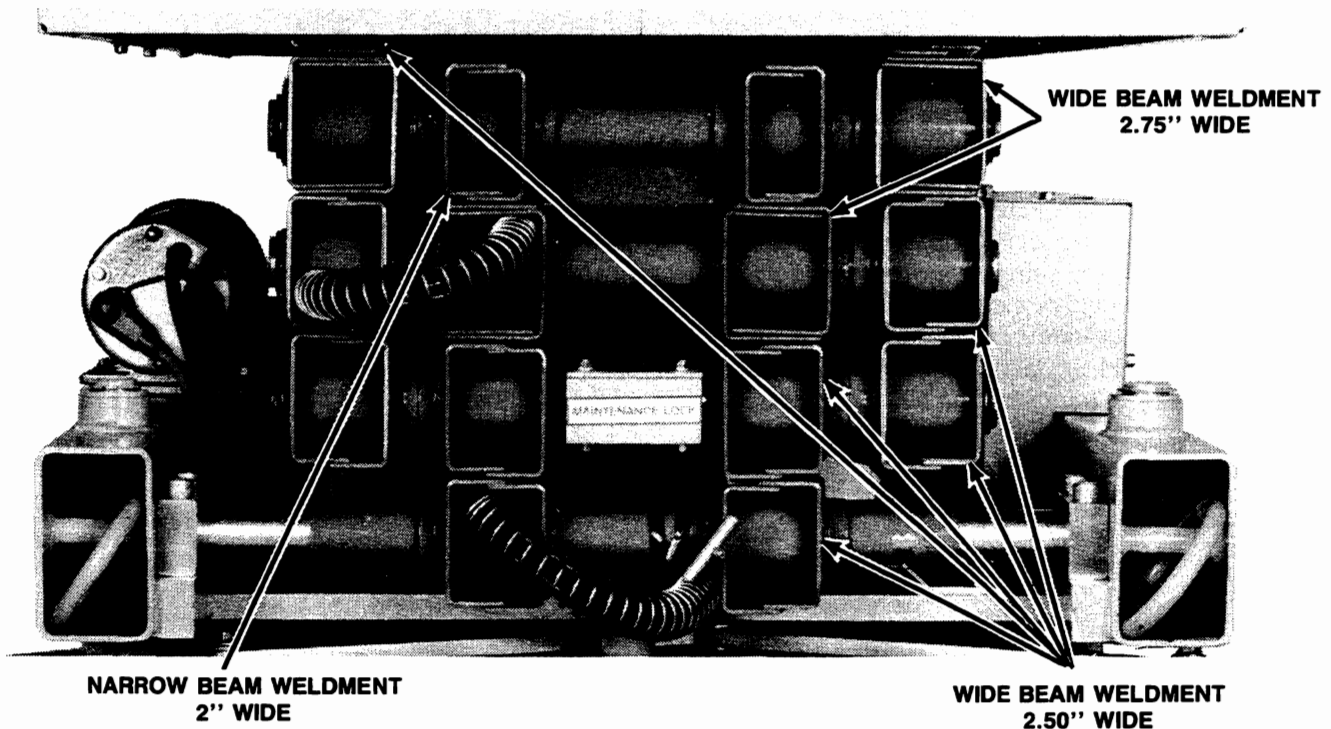

**Figure 17. Removing Lift Cylinder Pins and Retainers.**
- d. Remove cylinder pin retainer plates on both sides of cylinder mounting (top and bottom) (Figure 17).